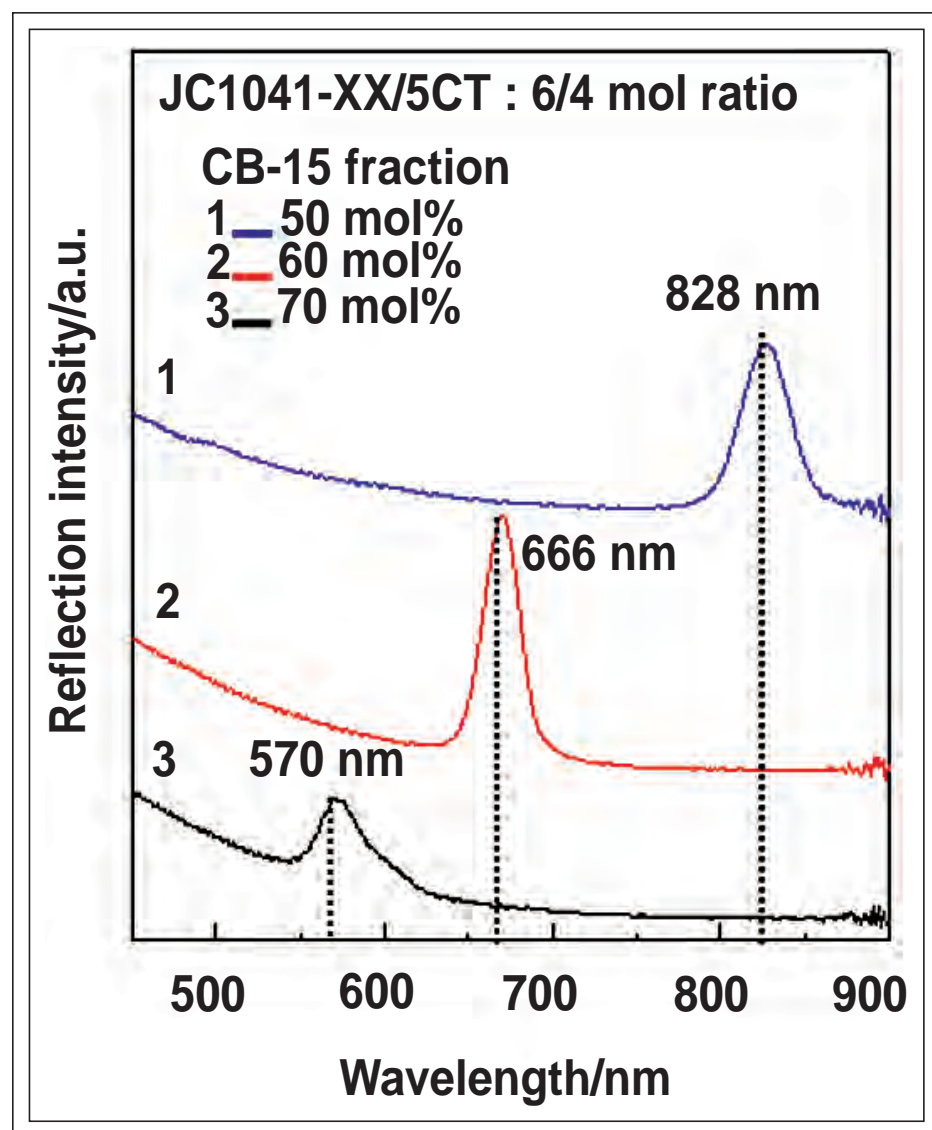

Fig. 3: Shown is the dependence of chiral-dopant concentration in blue-phase 1 on the (110) reflection peak.
For display applications, all diffraction wavelengths should be shifted out of the visible range. There are two methods to do so: changing the lattice constant and controlling the alignment. Here, an example is presented where the chiral-dopant concentration is controlled to decrease the lattice constant. Figure 3 shows the chiral-dopant concentration dependence of the diffraction peak from the (110) plane for blue-phase 1.